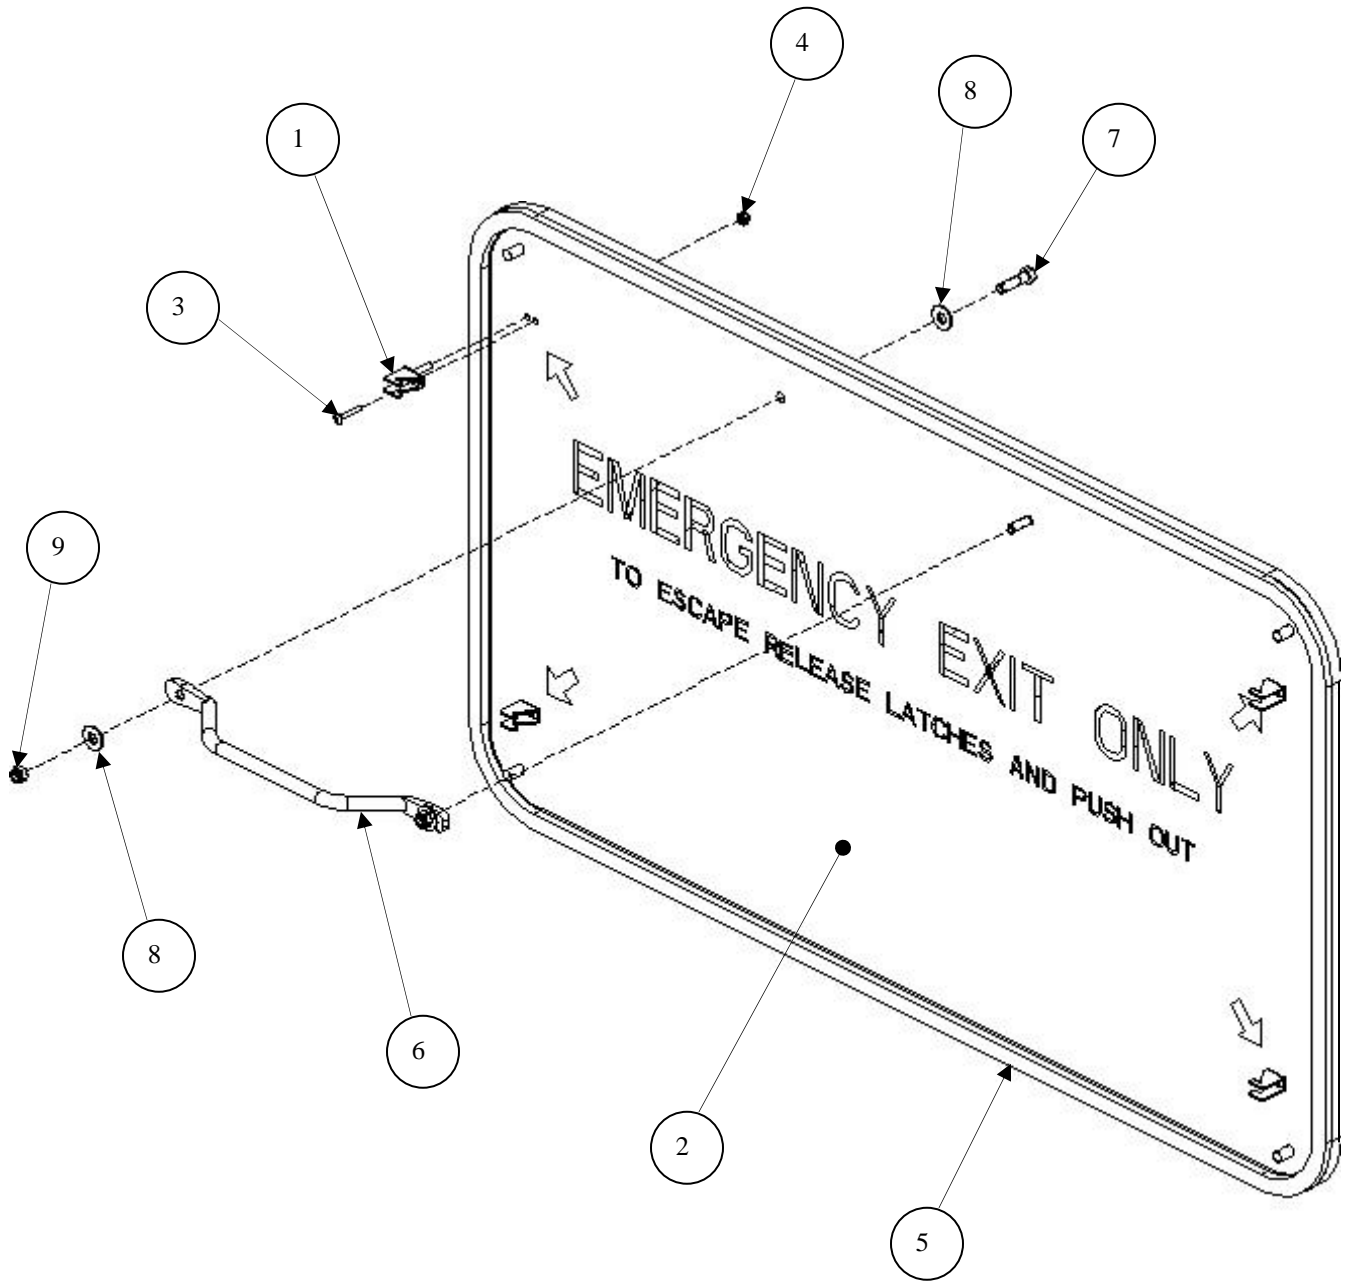

Figure 3-85. Escape Hatch Panel Pre-Assembly.
2. Pre-assemble escape hatch panel as follows (see Figure 3-85):
- a. Install four escape hatch catches (1) onto escape hatch panel (2) and secure each with two screws (3) and locknuts (4).